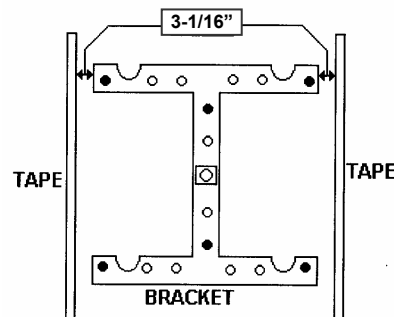

Figure 5-B – Mounting Bracket
4. Place masking tape on the wall where the sides of the jukebox will be when the unit is hung from the bracket. The outside of the jukebox is 3-1/16" from the edges of the wall bracket. (See *Figure 5-B*).